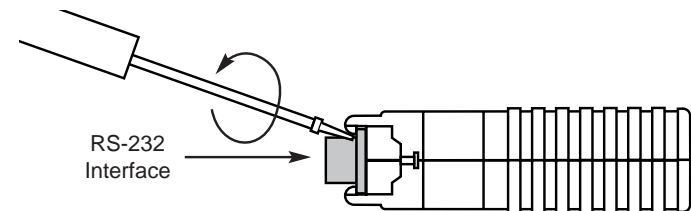

Figure 1. Inserting the screwdriver
1. Simply insert a small flathead screwdriver or similar tool between the DB-25 connector and the lip of the case as shown in Figure 1, below.